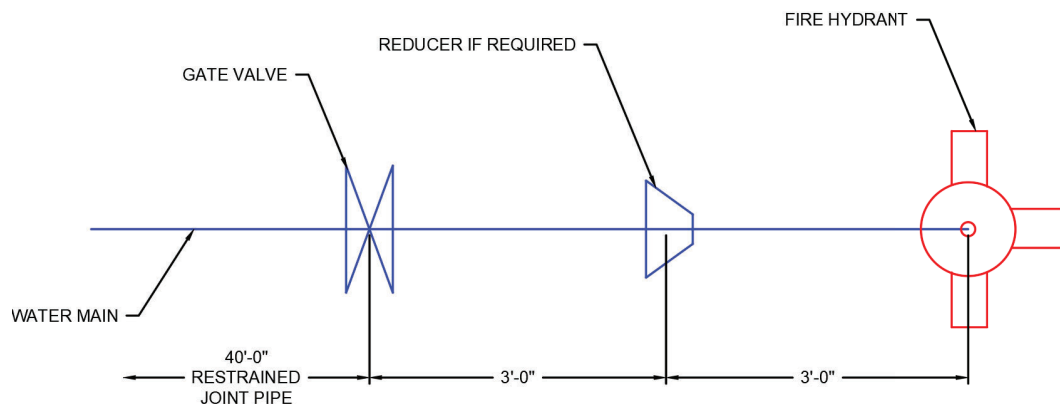

Figure 9- Dead-End Main FH
- 3.24. When a dead-end water main is required for future main extension, end the main with a fire hydrant and three (3) feet from the fire hydrant add a reducer (if required), and three (3) feet from the reducer add a gate valve. Restrain joint pipe is required forty (40) feet from the gate valve opposite of dead end, for the purpose of safely removing fire hydrant for future extension of the waterline. List restrained joint pipe separately in pay item quantities table. This provision does not authorize dead-end mains except as required by Oklahoma City for Oklahoma City purposes. See Figure 9.